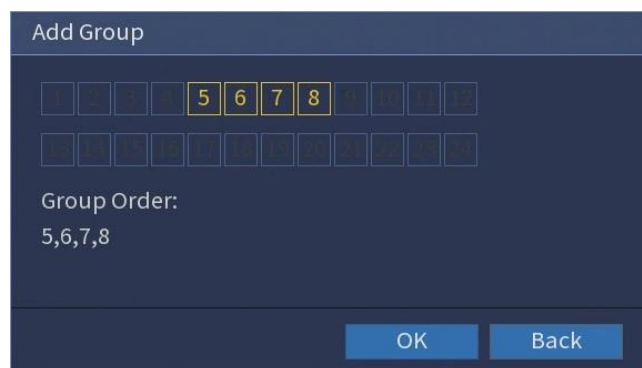

Figure 5-38
2. Select the channels that you want to group for tour. See Figure 5-38.